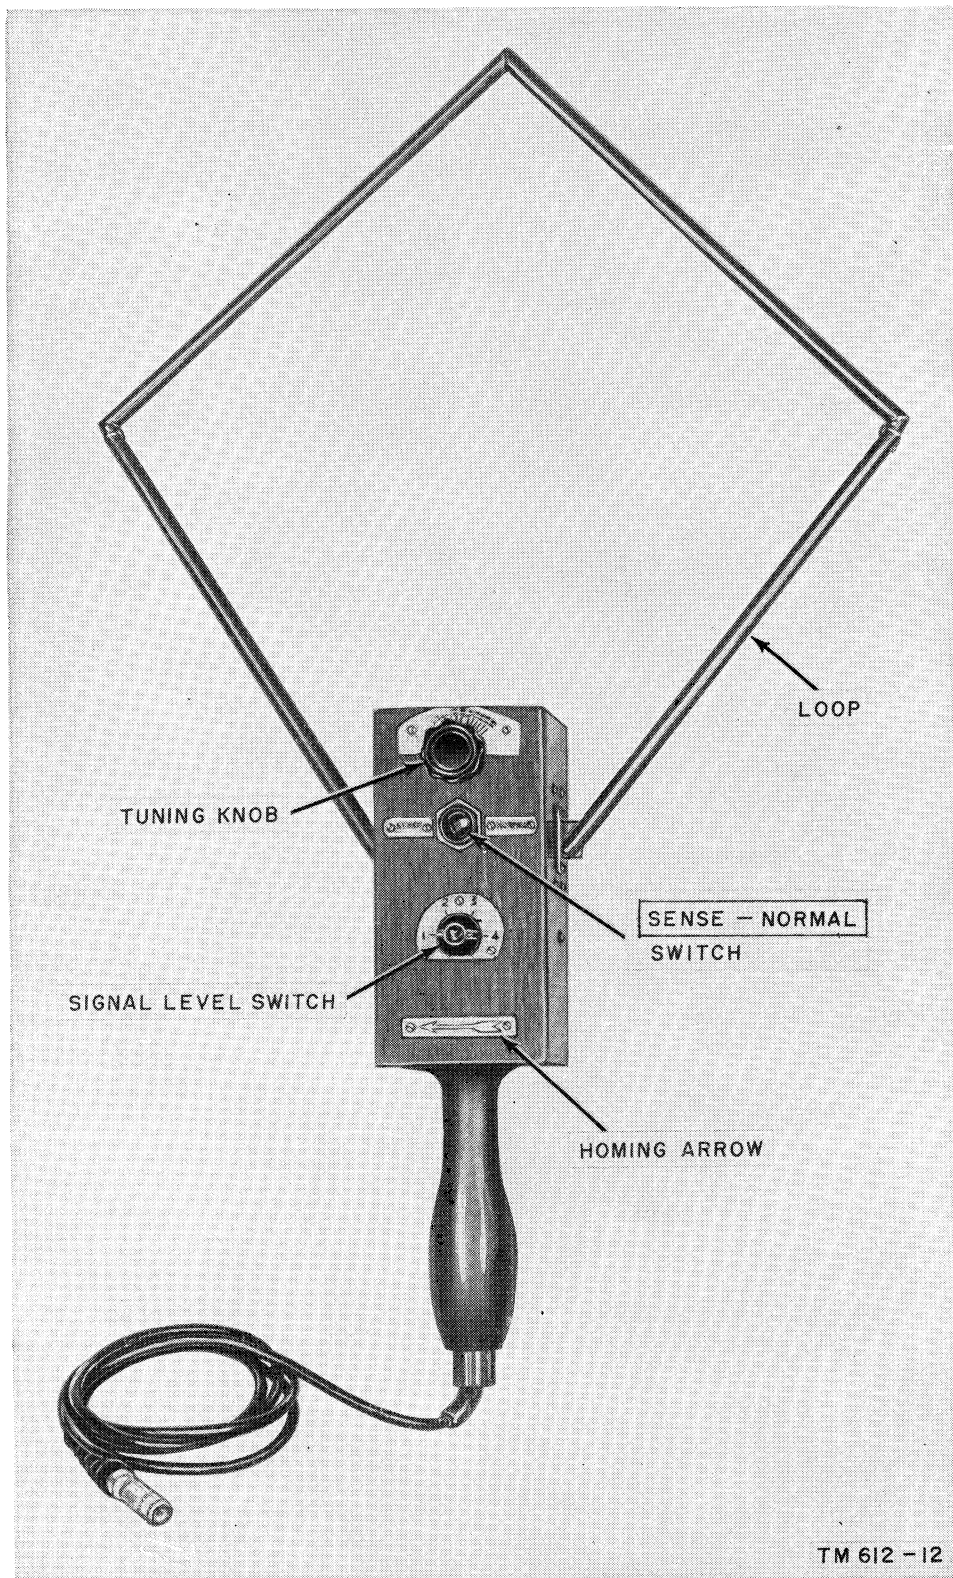

Figure 24. Homing antenna AT-339/PRC or AT-340/PRC.
*b.* Set the SENSE-NORMAL switch of the homing antenna at NORMAL (fig. 24). Set the signal level switch at position 1.
*c.* Set the tuning knob (fig. 24) to the desired operating frequency. (This is an approximate setting.)